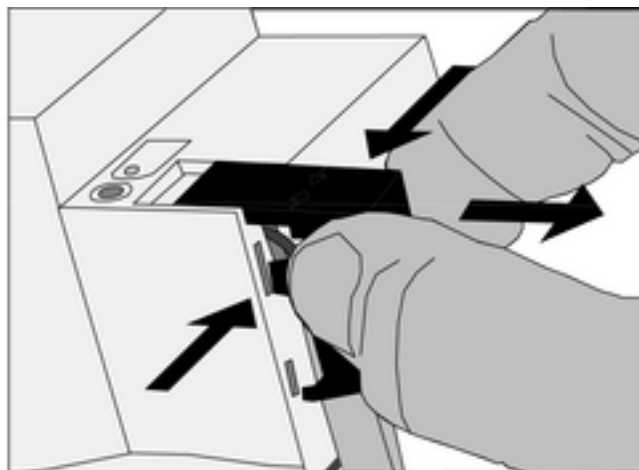

Figure 8: Removing the cover
- Press the cover to the side and pull it off (figure 8).